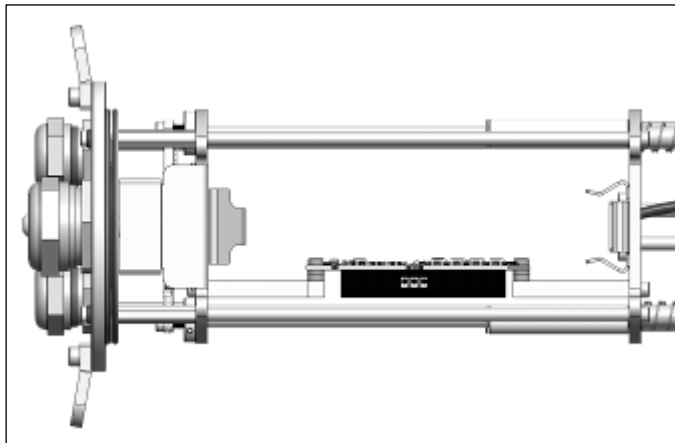

Figure 48: Mounting of the industrial PIF (top view)
5. Fix the Industrial PIF with the screws (M3x5) as shown in **Figure 48**.